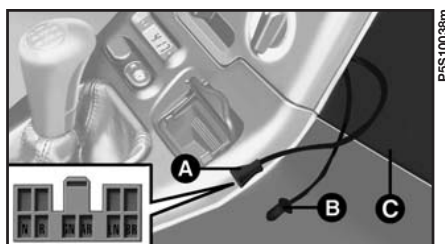

fig. 79
- wiring and ten-pin connector **A**-fig. 79 (to power and connect to the dual function speaker) and connection to dual function aerial **B** located in the front part of the central tunnel. To access the components, remove the screws and flap **C**.